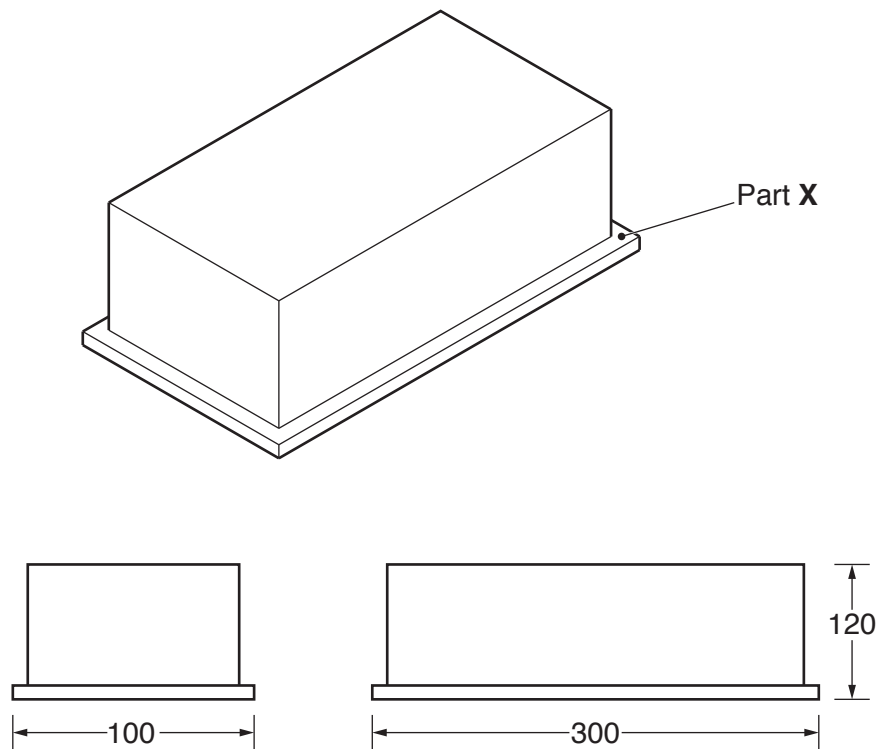

Fig. 5.1
- 5 Fig. 5.1 shows a vacuum forming mould used in the manufacture of the packaging of a product.